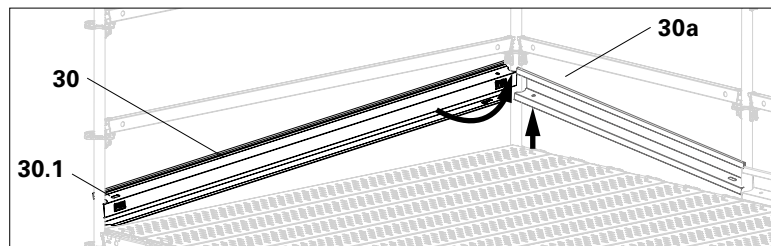
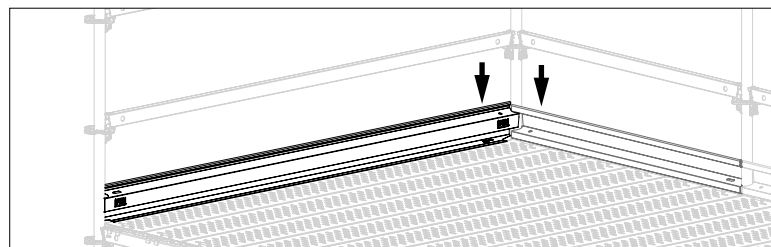

Fig. A5.04b
Fig. A5.04c
- Insert Toeboard UPY (30) from the outside-left first of all using the large tube cut-out (30.1). (Fig. A5.04b)
- Raise the Toeboard UPY (30a) that has already been mounted in the bay. (Fig. A5.04b)
- Place the Toeboard UPY (30) on the second tube and simultaneously insert it into the trapezoid box (30.6) of the toe board in the corner bay.
- The toe board is installed. (Fig. A5.04c)